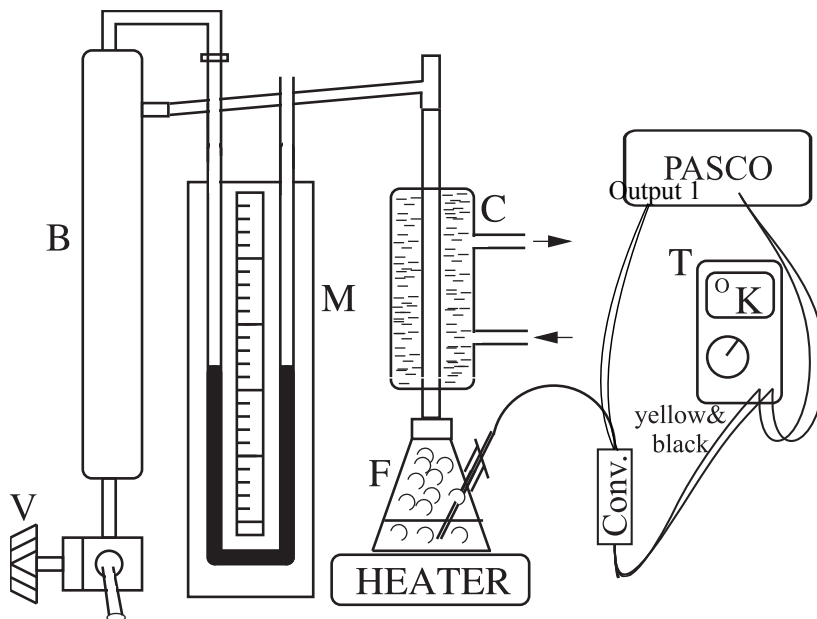

Figure 5: Vapour Pressure of Water Apparatus.
As illustrated in figure 5, the apparatus consists of a water-flask (F) with direct-reading thermometer (T), a water-cooled condenser (C), and a ballast tube (B) connected to a mercury manometer (M). The pressure can be regulated by means of the air valve (V). A thermocouple inside the flask is connected to a converter. This converter has two pairs of cables coming out. Connect the red and black wire to the power supply on PASCO and the yellow and black wire to the multimeter. The latter outputs a voltage where 1 mV equals 1 K. Make sure the cable is connected to the multimeter and to the analogue input A of PASCO interface. Make sure to check the PASCO readings with those on the multimeter. **Wire up the setup but have the TAs check it before turning on the power supply. To turn on the voltage supply, click on the tab of “signal generator” on the left-hand-side panel. Choose “Output 1” and click “On”.**